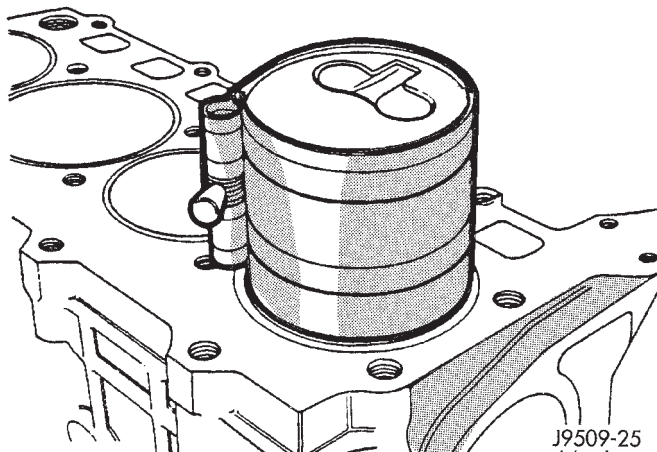

Fig. 61 Installing Piston
(3) Immerse the piston head and rings in clean engine oil, slide the ring compressor, over the piston and tighten with the special wrench (Fig. 61). **Ensure position of rings does not change during this operation.**
(4) Face chamber recess side of piston towards camshaft.
(5) Install connecting rod bolt protectors on rod bolts.
(6) Rotate crankshaft so that the connecting rod journal is on the center of the cylinder bore. Insert rod and piston into cylinder bore and guide rod over the crankshaft journal.
(7) Tap the piston down in cylinder bore, using a hammer handle. At the same time, guide connecting rod into position on connecting rod journal.
(8) Install rod caps. Install nuts on cleaned and oiled rod bolts and tighten nuts to 29.5 N-m (22 ft. lb.) plus 60°.